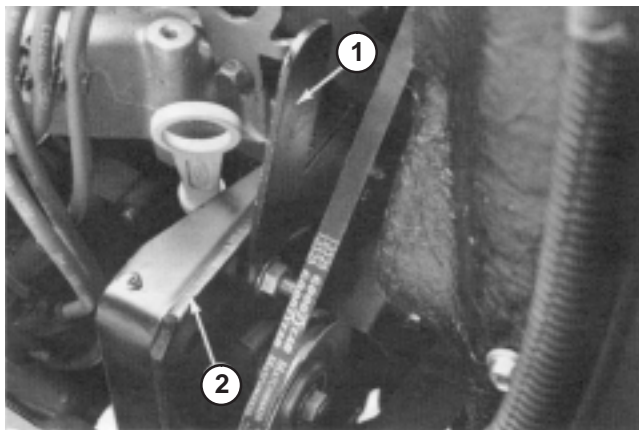

Figure 35
1. To adjust belt tension, loosen upper and lower nuts securing idler arm to front engine mount (Fig. 35).